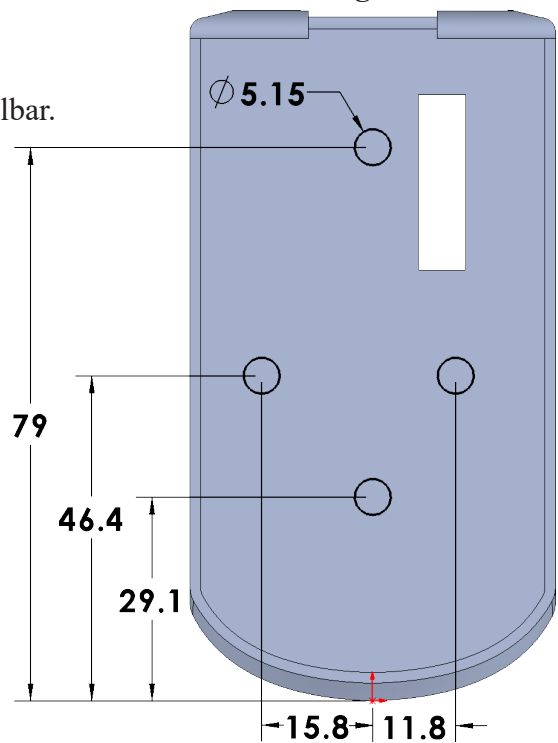

Fig. 49
Step 9. Click **Smart Dimension**  (S) on the Sketch toolbar.
Step 10. Add dimensions, **Fig. 49**.